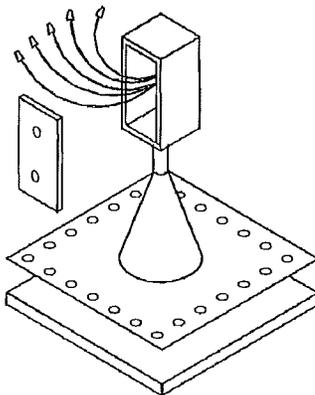

Figure 89. Roof mounted junction box
8. **Connect wiring.** Using wire nuts, connect the wires from a junction box (**Figure 89**) to the cooler and replace the cover on the box. Install coolers rated at 16 AMPS on a 20 AMP circuit and coolers rated at 12 AMPS max on a 15 AMP max circuit. Use one junction box per cooler and the following color codes for assigning wires: